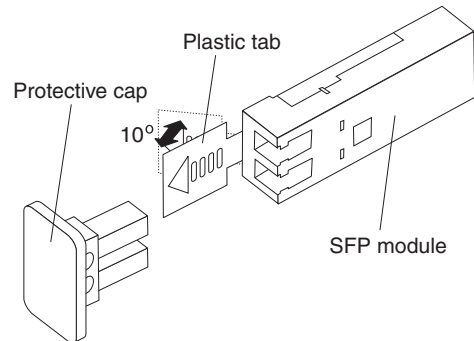

Figure 3-10. Unlocking the SFP module latch - plastic variety
- For SFP modules that contain plastic tabs, unlock the SFP module latch by pulling the plastic tab as shown in Figure 3-10.